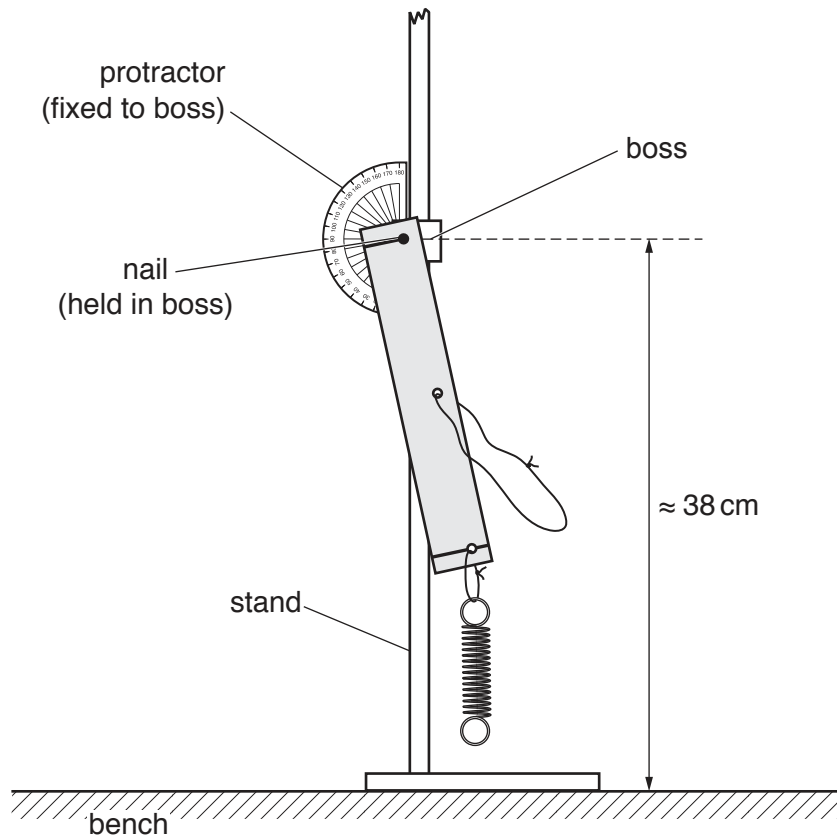

Fig. 1.3
- 4 The apparatus should be assembled as shown in Fig. 1.3.